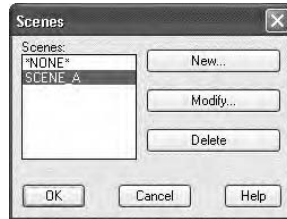

FIGURE A.40: The Scenes dialog box with Scene_A listed
4. Enter Scene_A in the Scene Name box. Select Render1 under Views, select Sunlight under Lights, and then click OK. You are returned to the Scenes dialog box. Scene_A is now on the list (see Figure A.40). Click OK.